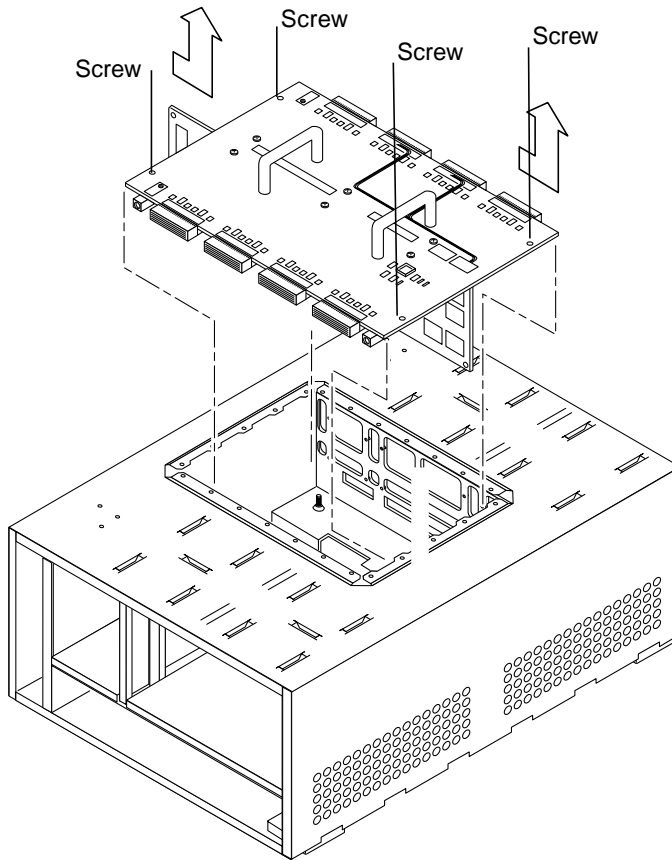

FIGURE 7-21 Removing the Interconnect Assembly
10. Remove and replace the interconnect assembly (FIGURE 7-21).
- a. Remove the four screws holding the assembly. See FIGURE 7-21.